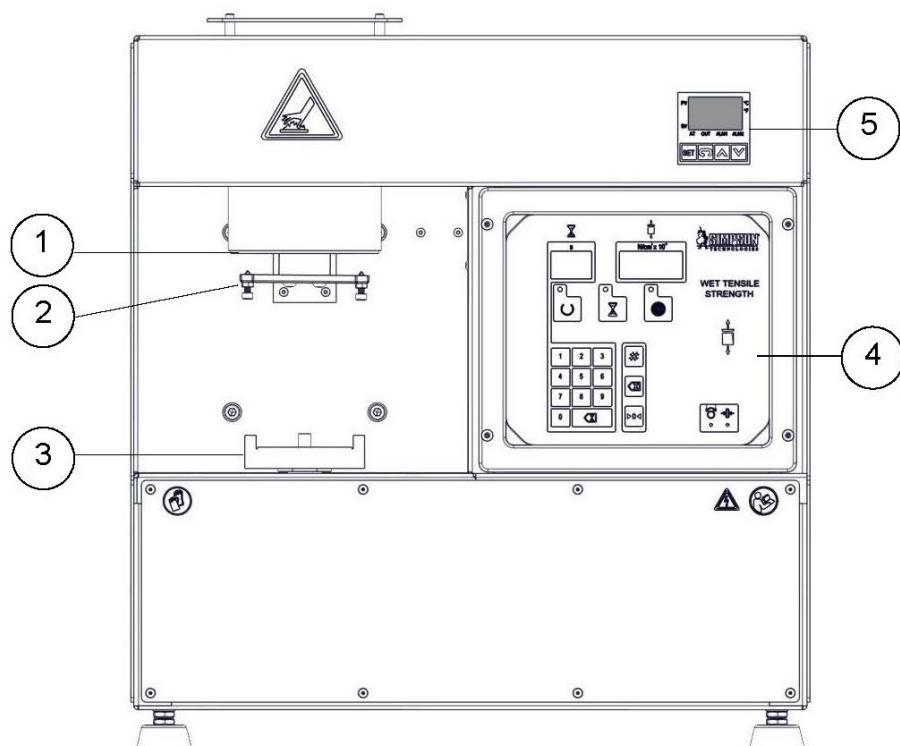

Figure 7-2 - Front View
2. Gently insert the Master Alignment Tube on the Table (Figure 7-2, Item 3) of the Wet Tensile Strength Tester.
4. Gently place a Master Calibration Weight, Model 42112B, on the measuring fork (Figure 7-2, Item 2). See Photo 1 showing the Master Calibration Weight loaded onto the measuring fork.
It is important to center the supporting pins located on the measuring fork (Figure 7-2, Item 2) to the center of the detachable ring of the specimen tube assembly. To verify the position of the pins, follow the following procedure:
1. Carefully insert the Alignment Master Tube (Model 42112A) on the table (Figure 7-2, Item 3) of the Wet Tensile Strength Tester. Gently push the Alignment Master Tube back on the table until it reaches the hard stop located at the rear of the table.